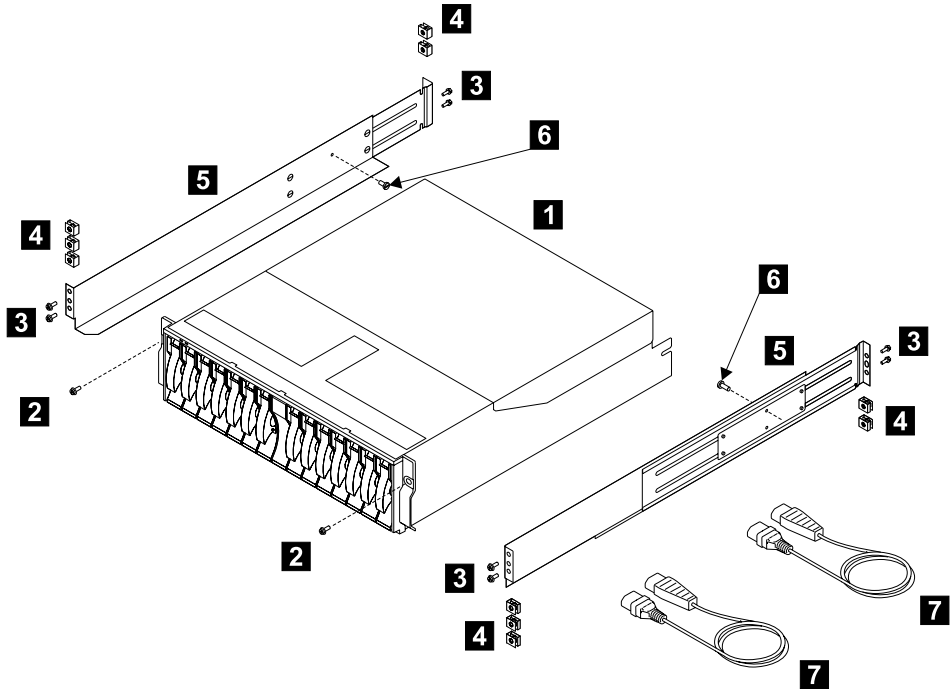

Figure 1. Items for the 2104 Model DU3
1. Refer to Figure 1.
1. Find the two support rails ( **5** in Figure 1 on page 4) that are supplied with the 2104.
**Note:** These are the screws identified as **6** in Figure 1 on page 4.